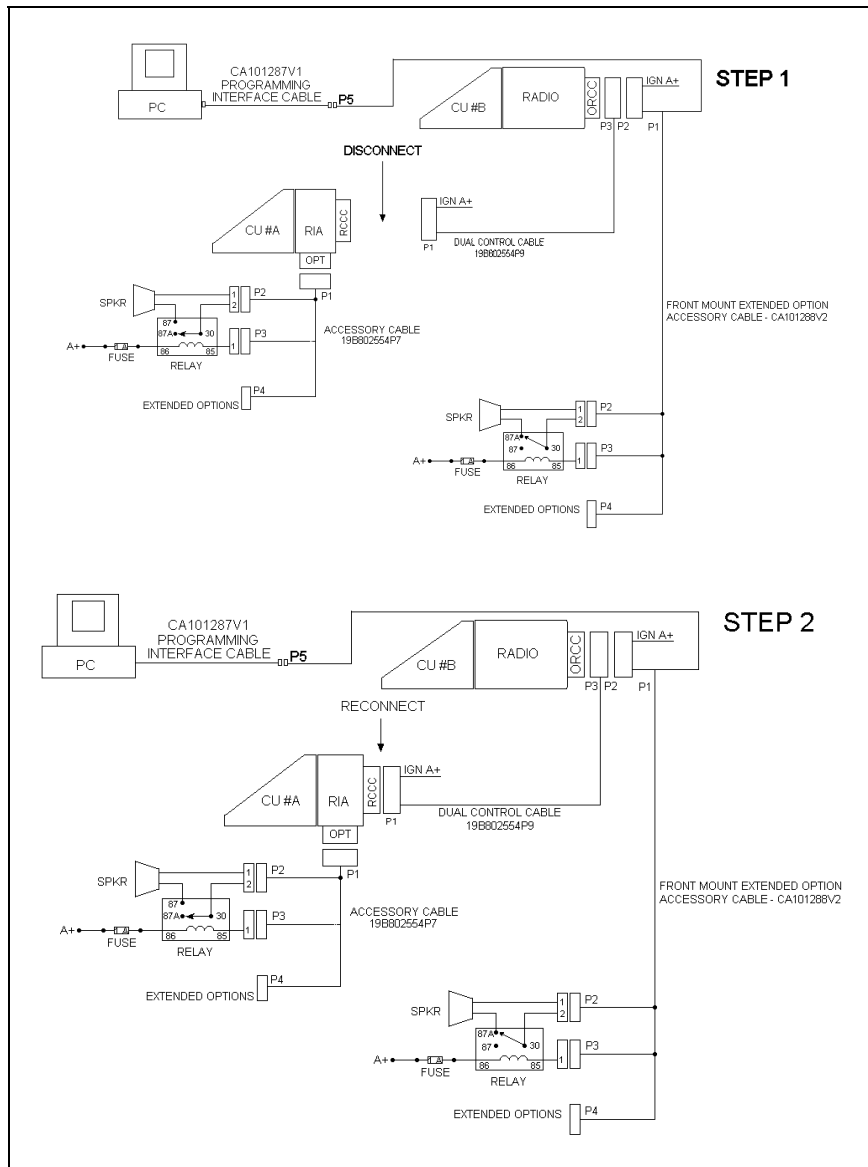

Figure 28 – M7100^{IP} Field Programming – Dual Control Unit Front/Remote Mount Configuration
Refer to Figure 28 for the Parallel Audio Setup Installation. Perform the following steps to install parallel audio speakers:
1. Connect the M7100^{IP} Front Mount Radio and the Auxiliary Control Unit per the ProGrammer setup as shown in Figure 28, Step 1 with Control Unit A disconnected. Program the radio with the control configurations shown in Step 1 of “Pre-Installation Programming Procedure with ProGrammer – Front Mount” and adjust as necessary for the specific application.
2. Connect the Front Mount Radio and Auxiliary Control Unit per ProGrammer setup as shown in Figure 28, Step 2 with Control Unit A reconnected. Program the configurations shown in Step 2 of “Pre-Installation Programming Procedure with ProGrammer – Front Mount” and adjust as necessary for the specific application.